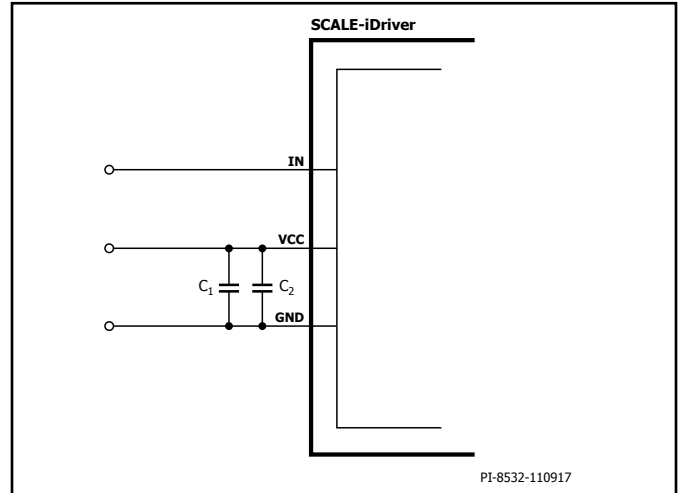
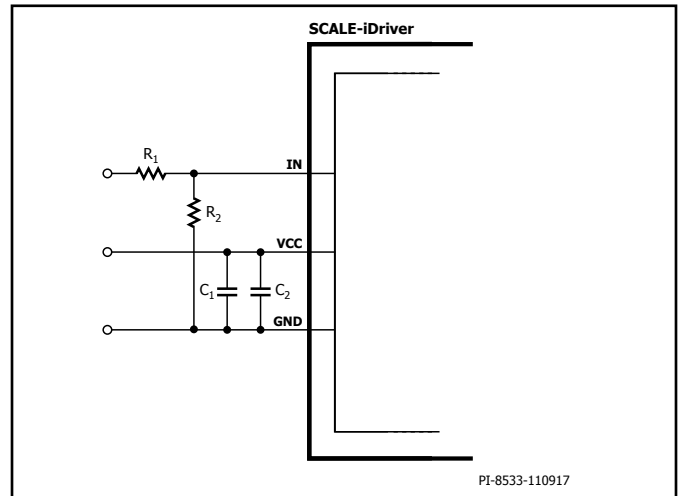
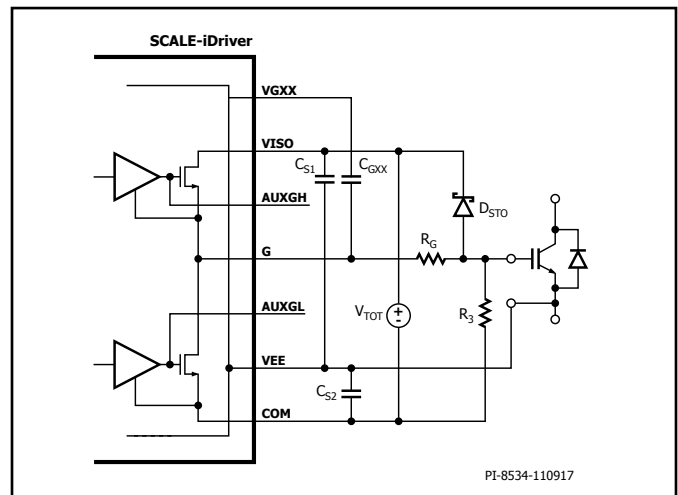
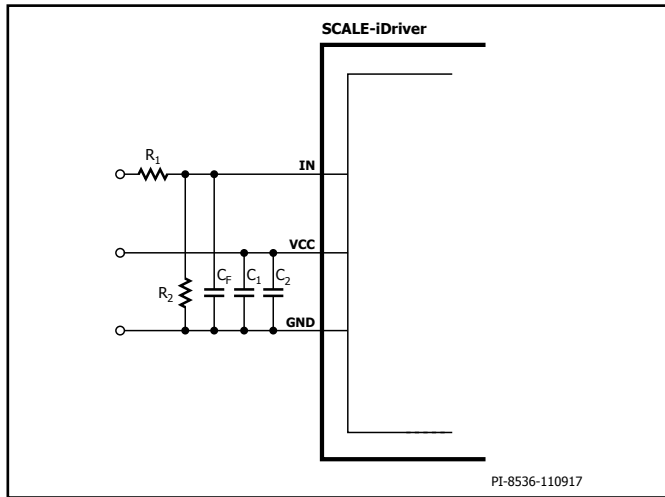

Figure 5. Recommended Circuitry for Standard 5 V IN Logic Level.
Figure 6. Recommended Circuitry for Increased IN Logic Levels. For $R_1 = 3.3 \text{ k}\Omega$ and $R_2 = 1 \text{ k}\Omega$ the IN Logic Level is 15 V.
Figure 7. SID1102K without External Booster Stage.
Figure 8. Optional Input Signal Filtering.
The input (IN) logic is designed to work directly with micro-controllers using 5 V CMOS logic. If the physical distance between the controller and the SCALE-iDriver is large or if a different logic level is required, the resistive divider in Figure 6 is recommended. This solution adjusts the logic level as necessary and will also improve the driver’s noise immunity.
The gate of the power semiconductor switch should be connected to the SCALE-iDriver output via pin G, using suitable gate resistor R_G as shown in Figure 7.
It is recommended during power-up and power-down that the IN pin stays at logic low. Any supply voltage related to VCC, VISO, VEE and VGXX pins should be stabilized using ceramic capacitors C_1 , C_2 , C_{S1} , C_{S2} , and C_{GXX} respectively as shown in Figure 5 and Figure 7. After supply voltages reach their nominal values, the driver will begin to function after a time delay t_{START} .
Figure 5 and Figure 7 show the primary-side and secondary-side schematic and typical components used for SID1102K design without a booster stage, in which the primary-side supply voltage (V_{VCC}) will be connected between VCC and GND pins and supported through supply bypass ceramic capacitors C_1 (4.7 μ F typically) and C_2 (470 nF typically). If the command signal voltage level is higher than the rated IN pin voltage, a resistive voltage divider should be used (Figure 6). Additional capacitor C_F can be used to provide input signal filtering as shown in Figure 8. The filter time τ can be calculated according to equation (1):
To avoid parasitic power-switch-conduction during system power-on the gate is connected to COM through 22 k Ω resistor R_3 as shown in Figure 7.
The primary-side can be setup identical as described in the previous section referring to Figure 5 or Figure 6 or Figure 8.